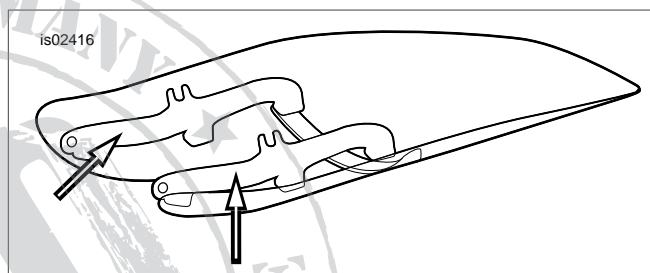

Figure 1. Windshield Mounting Brackets
1. See Figure 1. Remove the windshield sub-assembly from the packaging and place face down on a clean, soft surface with the mount brackets facing upward.